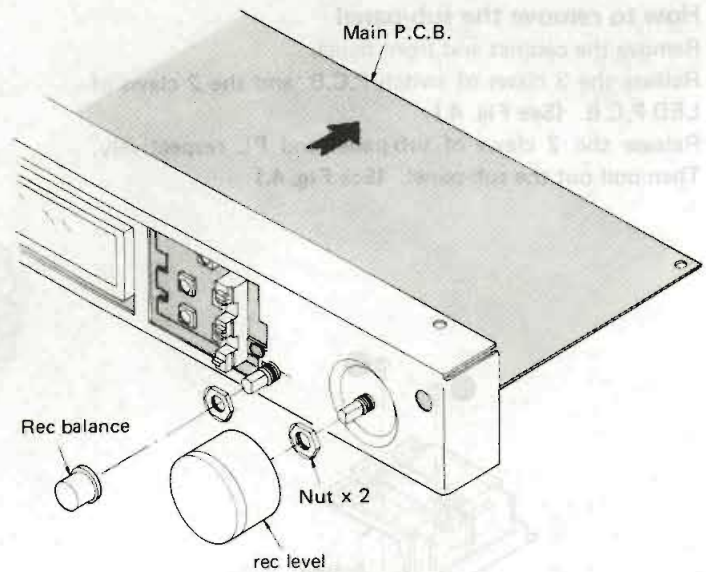

Fig. 7
2. Remove the 2 knobs. (See Fig. 7.)
3. Remove the 2 volume nuts. (See Fig. 7.)